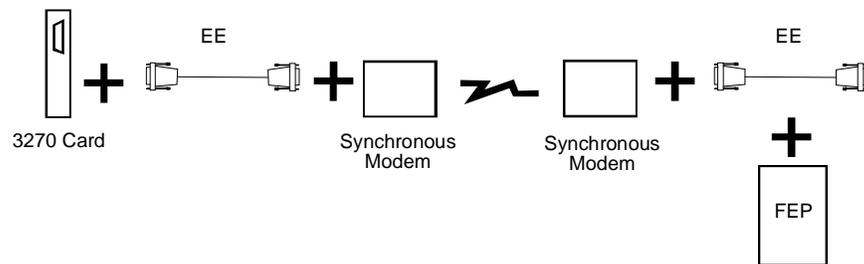
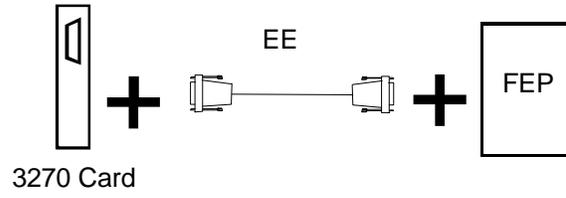

Figure B-6. 3270 Interface Connection Using Synchronous Modems
Figure B-8. 3270 Interface Connection Using a Direct Connection to the FEP
Figure B-6 through Figure B-8 show examples of external connectivity and cabling for a 3270 connection to the FEP. Note the following about these connections:
- The synchronous modem (Figure B-6) must provide clocking on pins 15 and 17.
- The example in Figure B-8 assumes that the FEP provides the clocking on pins 15 and 17 to transmit and receive. This type of connection is rarely used.